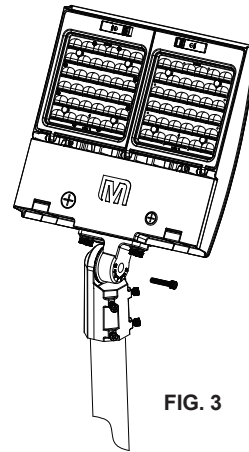

FIG. 3
3. To aim the fixture, loosen the M8 center knuckle bolt on the arm, adjust the arm to the desired angle, and re-tighten the bolt. (See Fig. 3)